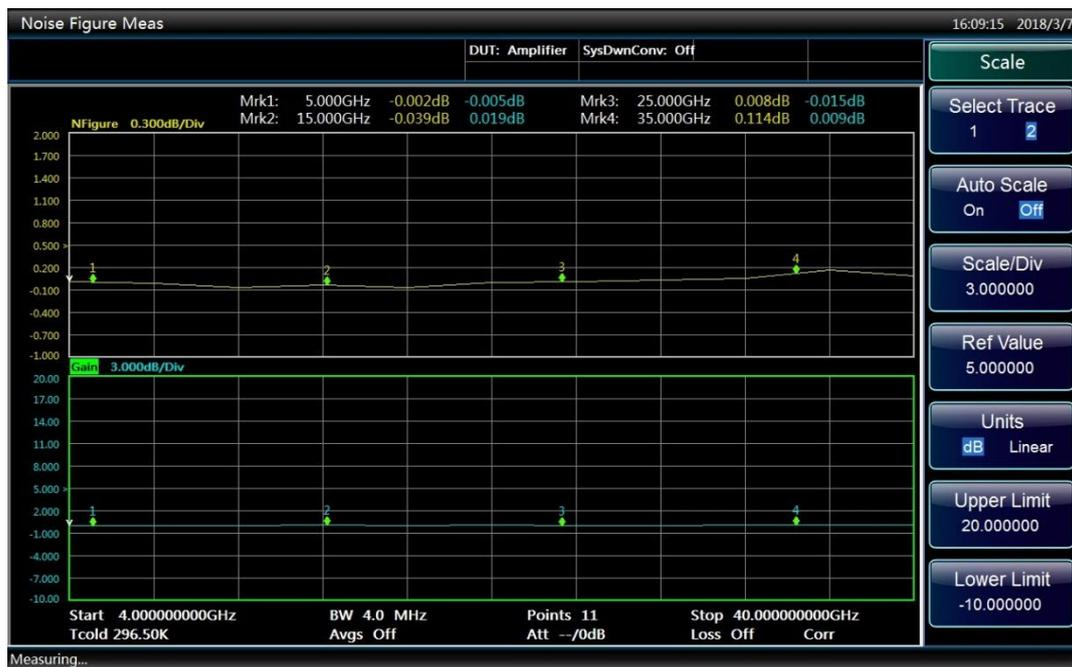

Fig. 3.38 Typical noise figure displayed on a graph
Step 2. Press the [Trace] menu key to select the active trace of which the scale you want to set. A typical noise figure display in graph format is shown in Fig. 3.38.